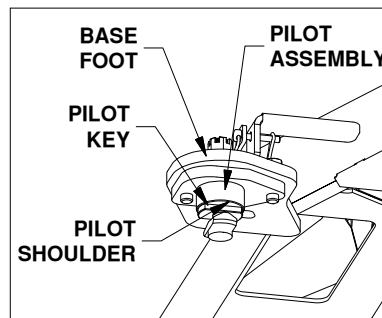
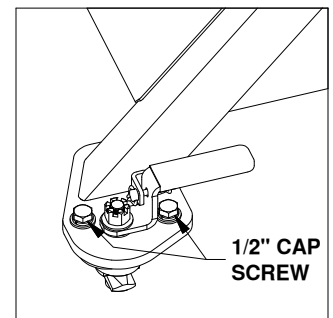

Figure C3: View under base foot
Figure C4: View of a base foot.
2. Each leg of the Companion base has an adjustable pilot assembly which is attached to the foot with two 1/2" cap screws, as shown in Figure C3. To adjust the pilot assemblies that do not fit into the attachment points, loosen both the 1/2" cap screws so the pilot assembly can move freely, see Figure C4. Set the base over the attachment points and adjust the pilot assemblies until the pilot keys pass through the slot in the attachment points and the pilot shoulders rest flat against the top of the attachment points. When all the pilot assemblies are aligned and inside the attachment points, push the base towards the cab and use a tape measure to verify that the base is approximately square with the truck bed. Tighten any loose cap screws to 110 ft-lbs.